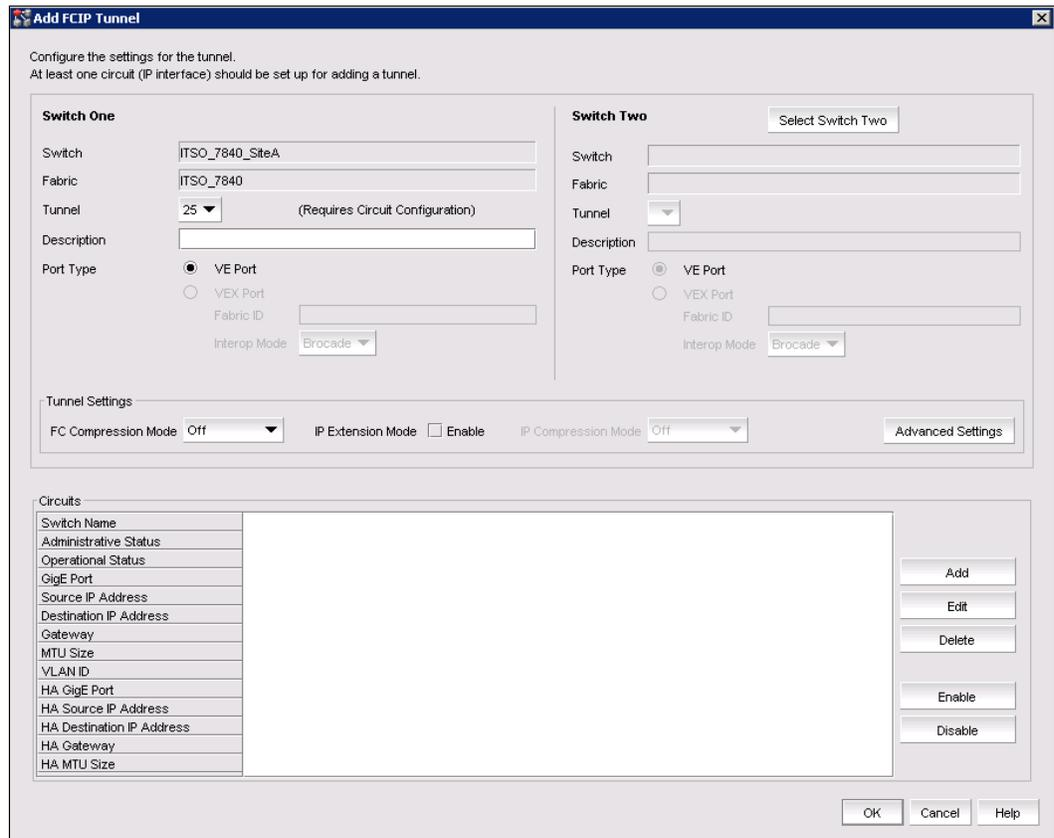

Figure 4-7 Select Switch Two
- Click **Select Switch Two** to select the extension switch that is at site B (Figure 4-7).